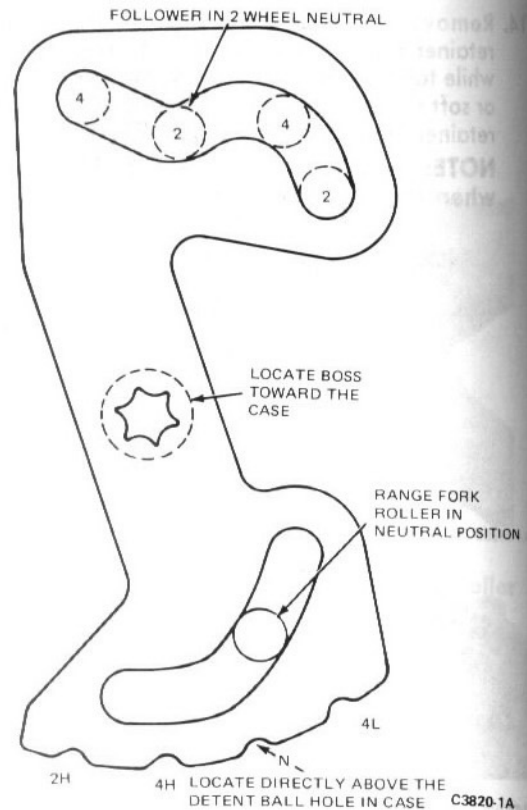

FIG. 17 Connect Shift Cam Engagement
2. Place the rear output shaft in the planetary gear set, making sure the shift cam engages the shift fork actuating pin (Fig. 17).